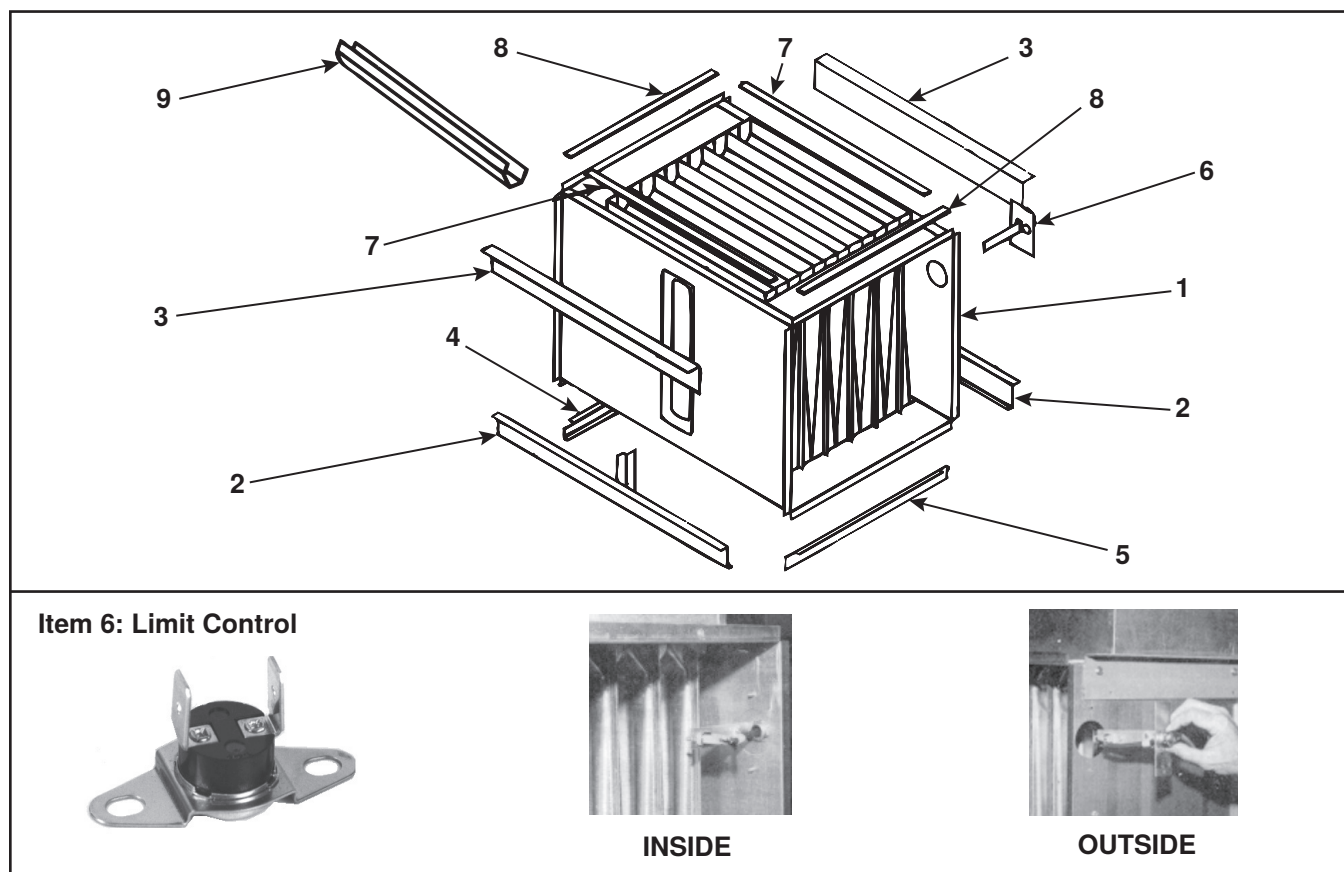

Figure 3. Heat Exchanger Assembly (Refer to Table 6)
*Quantity is one (1) unless otherwise indicated.
**Accessible from inside or outside the furnace (see Figure 3).